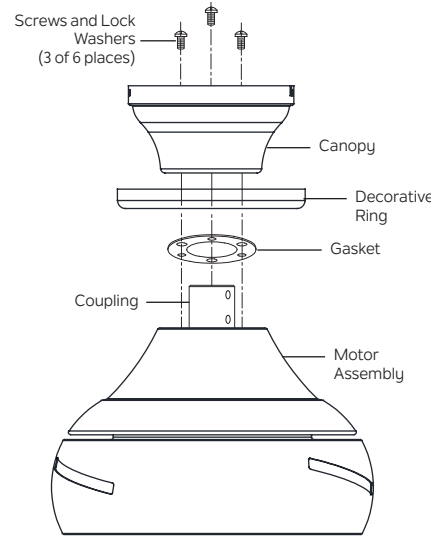

Fig. 10B
Step 4. Remove three of the six screws and lock washers (every other one) from the top of the motor assembly (**Fig. 10B**). Retain screws and lock washers.
Step 5. Place the gasket, then the decorative ring, then the canopy over the coupling at the top of the motor assembly. Align the holes in the canopy and gasket with the holes in the top of the motor assembly and fasten the gasket and the canopy to the motor assembly using the screws and lock washers that were removed in **Step 4**. (**Fig. 10B**).
Step 6. Tighten the screws securely (**Fig. 10B**).